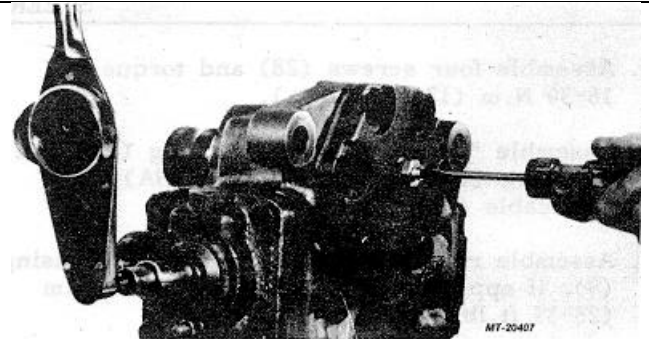

Fig. 41
37. Assemble six special bolts (61) and torque to 298-325 N•m (220-240 ft.lbs.).
38. Adjust side cover adjusting screw (51) to provide a 2.6-3.2 N•m (23-28 in.lbs.) torque at worm shaft (17) as steering gear is moved 90 deg. each side of center. Back out the adjusting screw one turn and note torque required to move thru 90 deg. each side of center. Move adjusting screw in to provide a rise in torque of .23-.45 N•m (2-4 in.lbs.) at a point within 45 deg. each side of center. After tightening nut (59) to 54-61 N•m (40-45 ft.lbs.) torque to rotate worm shaft must not exceed 2.9 N•m (26 in.lbs.) at any point in steering gear travel (Fig. 41).